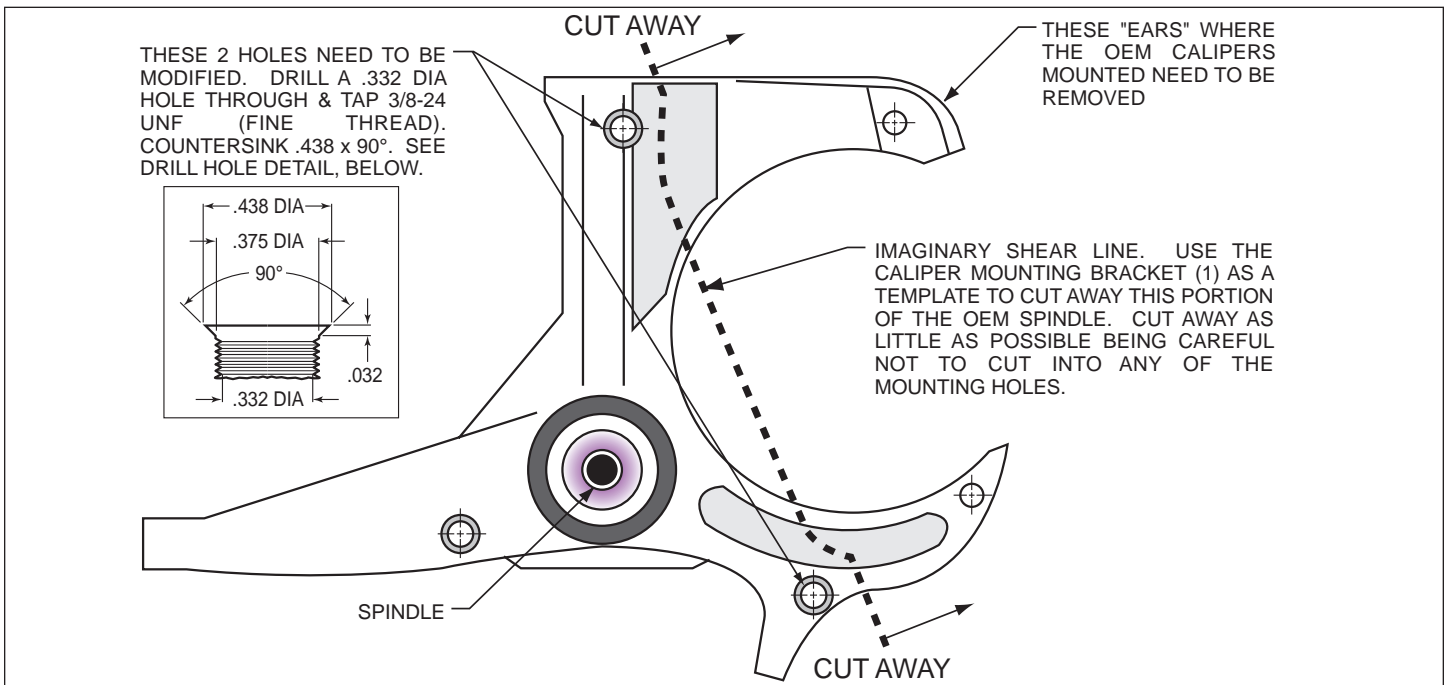
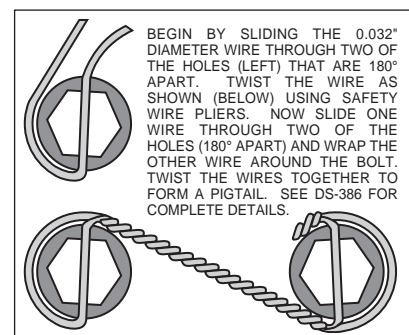

Figure 1. Steering Arm / Spindle Modifications
Figure 4. Safety Wire Diagram
These modifications should be performed by a qualified machinist. Refer to Figure 1 on the following page as necessary (numbers in parenthesis refer to the parts list on page three). Only one view of the steering arm/spindle is shown, but the modifications need to be performed on both steering arm/spindles.
The two stock holes that will be used to mount the caliper mounting bracket (1) need to be modified (figure 1). Drill a .332 diameter hole through both holes, then tap 3/8-24 UNF (fine thread). Countersink the holes to .438 x 90°. The “ears” that protrude to form a “C” shape need to be removed to facilitate the installation of the Wilwood caliper (22). Using the caliper mounting bracket (16) as a template, mark two cut marks on the steering arm. Remove as little as necessary from the “C” shape, being careful not to cut away any of the mounting holes required to bolt on the caliper mounting bracket (1).
- Pack the large inner bearing cone (5) with high temperature disc brake bearing grease (available from your local auto parts store) and install into the backside of the hub (4).
- Install the grease seal (6) by pressing into the backside of the hub (4).
- Pack the small outer bearing cone (12) with high temperature disc brake bearing grease and install into front side of the hub (4). Slide the hub assembly (4, 5, 6 and 12) onto the spindle. Secure using spindle washer (13), stock adjusting nut, and nut locking device. Adjust wheel bearing pre-load per Original Equipment Manufacturer (OEM) specifications.
- Install the O-ring (14) and the dust cap (15) into the hub (4). **NOTE:** O-ring (14) friction will not allow cap (15) to unscrew on its own.
- With the larger I.D. side of the rotor (7) facing away from the hat (8), bolt rotor (7) to hat (8) through the backside of the rotor using washers (9) and bolts (10). Using an alternating sequence, apply red *Loctite*® 271 to the threads and torque bolts to 155 **in-lb**. For an added measure of security, the bolts may be safety wired using standard 0.032 inch diameter stainless steel safety wire as shown in Figure 4. Please refer to Wilwood's data sheet DS-386 (available at [www.wilwood.com/Pdf/DataSheets/ds386.pdf](http://www.wilwood.com/Pdf/DataSheets/ds386.pdf)) for complete safety wire installation instructions.
- Slide the rotor/hat assembly over the studs (3) in the hub (4) taking care to align the small countersunk holes in the hat (8) with the small threaded holes in the hub (4). Install three flat head socket head screws (11) through the small holes in the hat (8) and torque to 85 **in-lb**. Check to be sure the hat seats squarely against the hub face.
- NOTE:** Please reference the caution statement at the beginning of the assembly instructions. The caliper mount brackets (16) should be installed first with clean, dry threads on the mounting bolts (17). Place sleeve (19) into the holes on the radial mount caliper bracket (16). Install the radial mount caliper bracket (16) on the backside on the flat caliper bracket (1) by sliding bolt (17) through washer (18) and through the bracket holes. Place spacer (20) and shim washer (21) between the two brackets and screw bolt (17) into insert nut on the flat caliper bracket (1). Finger tighten bolt (17). Use one thin shim (21) between the two brackets (1 and 16) during initial trial fitting.
- NOTE:** This kit contains distinct right and left hand calipers that must be mounted in a specific direction, as described below. Lubricate the caliper mounting studs (23) with lightweight oil. Initially place two .030" thick shims (24) on each stud as shown in Figure 1. Mount the caliper (22) onto the bracket (16) using lock nuts (26) and washers (25), Figure 1. Ensure that the caliper is mounted so that the largest pistons are at the rotor exit end of the caliper, in relation to the direction of rotor rotation. Temporarily tighten the lock nuts.
- View the rotor (7) through the top opening of the caliper (22). The rotor (7) should be aligned in the center of the caliper (22). If not, adjust the radial mount caliper bracket (16) by using shims (21 and/or 28)) placed between the two brackets (1 and 16). Add as many shim washers (21 and/or 28) as necessary to achieve the correct alignment. Always use the same amount of shims on both the top and bottom radial mount caliper mounting bolts (17). Finger tighten and recheck alignment, adjust as necessary. Apply red *Loctite*® 271 to bolt threads (17) and torque to 47 ft-lb.